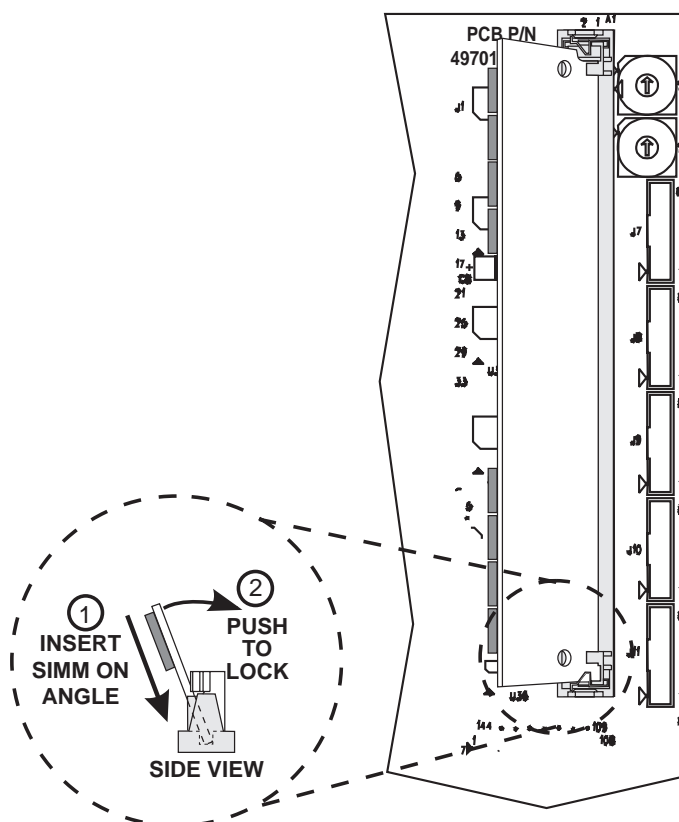

Figure 5.19 SIMM Installation
3. Refer to Figure 5.19 and locate the SIMM Socket on the Main Logic Board.
4. Install the SIMM into the socket as illustrated in Figure 5.19. (Make sure the SIMM is locked securely into position.)
7. Hook a 2200 gram spring scale to the belt as shown in Figure 5.19, and carefully slide the Idler Gear Assembly to the left to increase belt tension.